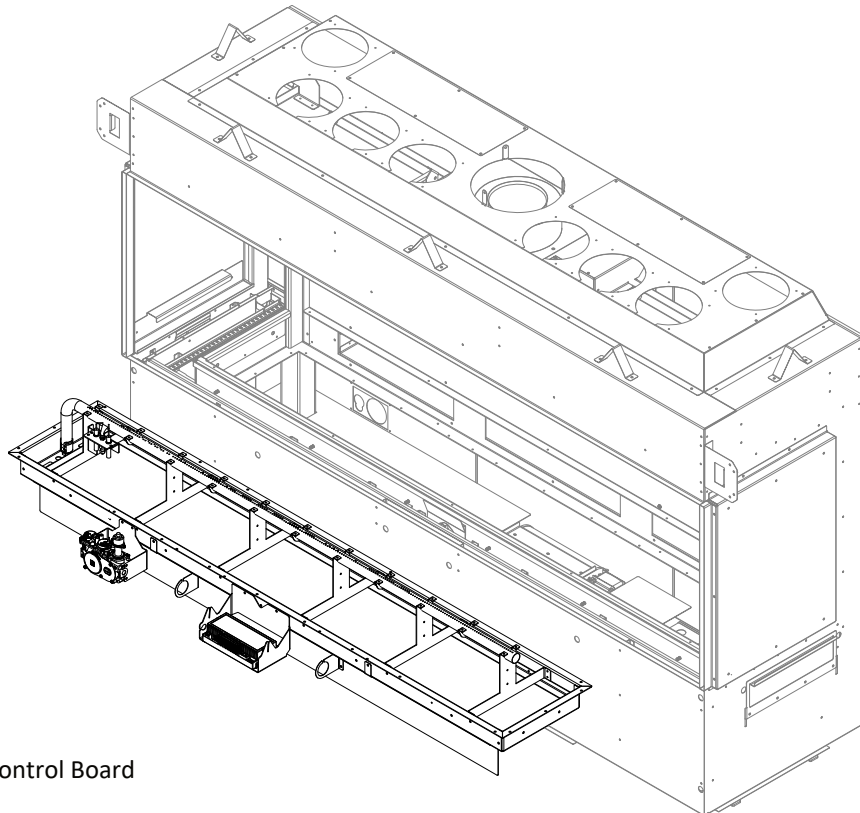

Figure 7.21 - Remove Control Board
6. Remove the (24) sheet metal screws securing the control board to the bottom of the firebox. Figure 7.21.